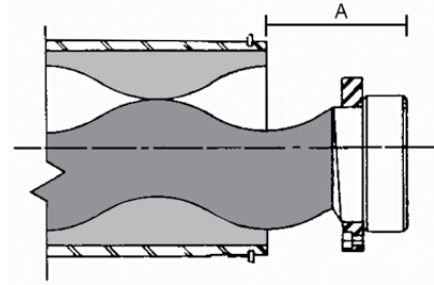

Figure 4-5. Rotor Installation
2. Slide stator clamp rings (36) on both ends of the stator (30) and secure in position with retaining rings (35).
3. On F012, G022, H036, H050 and K115 models, place one stator gasket (34) in recess of adapter flange (25A), and fit adapter flange with gasket to end of stator.
4. Coat the rotor (40) contour with waterless hand cleaner, glycol or other lubricant compatible with the stator elastomer. Insert rotor into stator so that rotor head is at the specified distance from the end of the stator (Dimension "A," fig. 4-5). On F012, G022, H036, and K115 models, be sure the rotor is inserted in the end of the stator fitted with the adapter flange (25A) and gasket (34).